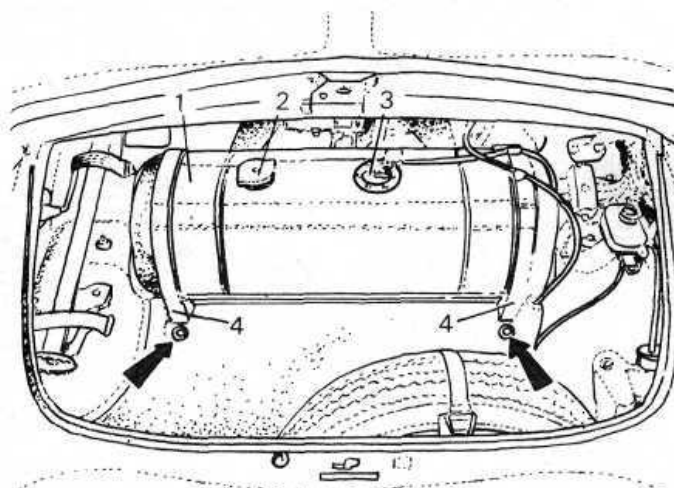

FIG 2:20 Location of the fuel tank in front compartment, 500F, L
The fuel tank is arranged in the front compartment as shown in **FIG 2:20**. To remove the fuel tank proceed as follows:
- 1 Remove both screws which secure the front ends of the clamping bands to the dash panel. The screws are shown by arrows in **FIG 2:20**.
FIG 2:19 Fuel tank in front compartment. The fuel reserve supply indicator (red light) glows when fuel amount in tank is less than .8 to 1.1 Imp galls, or 5 litre
Key to Fig 2:20